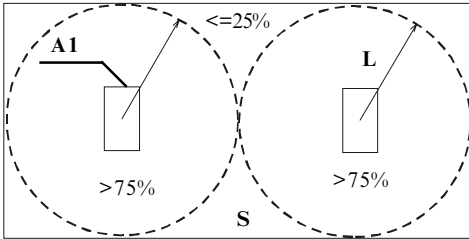

Fig.3 Monitoring a basic part of an object
- basic part of an object surface (fig. 3)